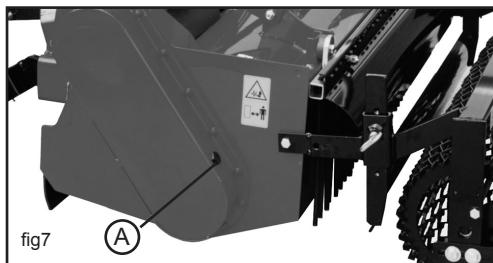

fig7
6. Grease abundantly every six months the gearing chain by the suitable cap as to (Fig.7 - Ref.A).